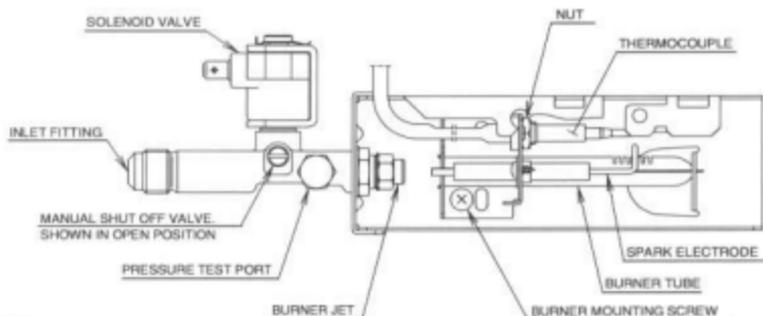

FIG. 12
- D. The LP gas pressure should be checked and the main regulator re-adjusted if pressure is incorrect. The correct operating pressure is 11 inches of water column. The correct place to take the LP gas pressure is at the test port just ahead of the burner jet. (See FIG. 12).
6. Remove the burner mounting screw and remove the burner assembly. (See FIG. 12).
Set main regulator so pressure does not drop below 11 inches water column at pressure test port (see page 12, FIG. 12).